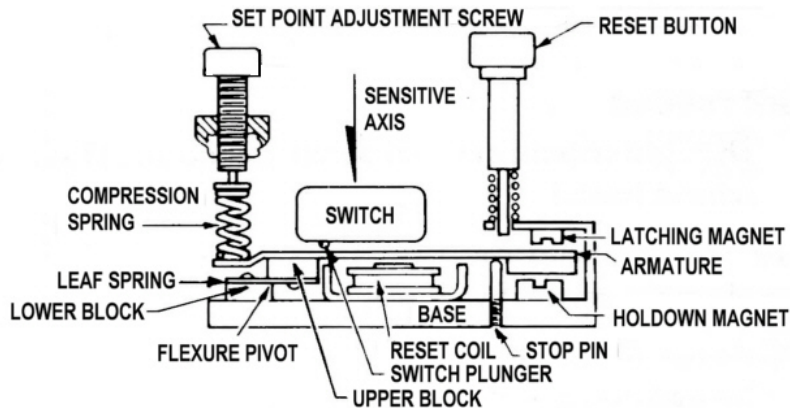

Figure 4-1. Operating Principal for the Vibraswitch®, Model 365A & E365A
The Model 365A & E365A **Vibraswitch®** (Ref. Figure 4-1) is sensitive to vibration in a direction (the sensitive axis) perpendicular to its mounting base. It contains an acceleration sensitive mechanism, which also functions as a “mechanical amplifier”, to activate a snap action switch when the selected level of vibration is exceeded and the detecting mechanism “trips”.
With the equipment on which the **Vibraswitch®** is mounted not operating, back off the SETPOINT adjustment screw counterclockwise (CCW) two (2) turns and press the RESET button. Then turn the SETPOINT adjustment screw slowly clockwise until actuation occurs (the armature assembly is against the latch magnet, Figure 4-1). This is the zero vibration point, or actuating point, with the machine not operating. A mark should be made with a pencil or other convenient means to permanently record this “zero” vibration point. Subsequent measurements are made relative to this point.
5.1 FUNCTIONAL TEST (Ref. Figure 4-1)
2. Broken leaf spring (Refer to Figure 4-1).